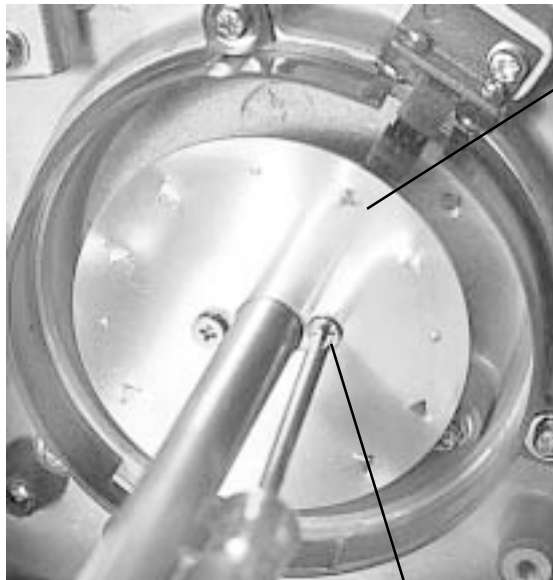

Fig. 6-45
2.	Install Item 10 Felt Friction Washer onto the Ribbon Shaft and slide it against Item 11 Plate. The jagged teeth on Item 11 Plate will "dig into" the felt washers. Slide (1) Item 9a or 9b Wind or Unwind Disc Plates onto each Ribbon Shaft. The teeth/slots on the unwind disc plate must be face towards felt washer. Fig. 6-45 & 6-46